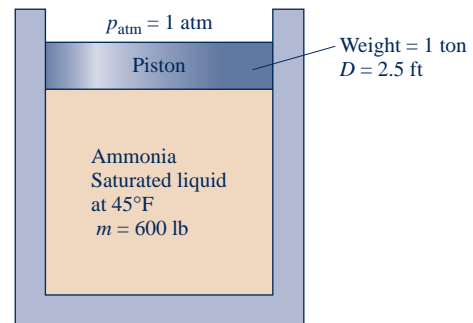

Fig. P3.31
3.31 As shown in Fig. P3.31, a cylinder fitted with a piston is filled with 600 lb of saturated liquid ammonia at 45°F . The piston weighs 1 ton and has a diameter of 2.5 ft. What is the volume occupied by the ammonia, in ft^3 ? Ignoring friction, is it necessary to provide mechanical attachments, such as stops, to hold the piston in place? Explain.